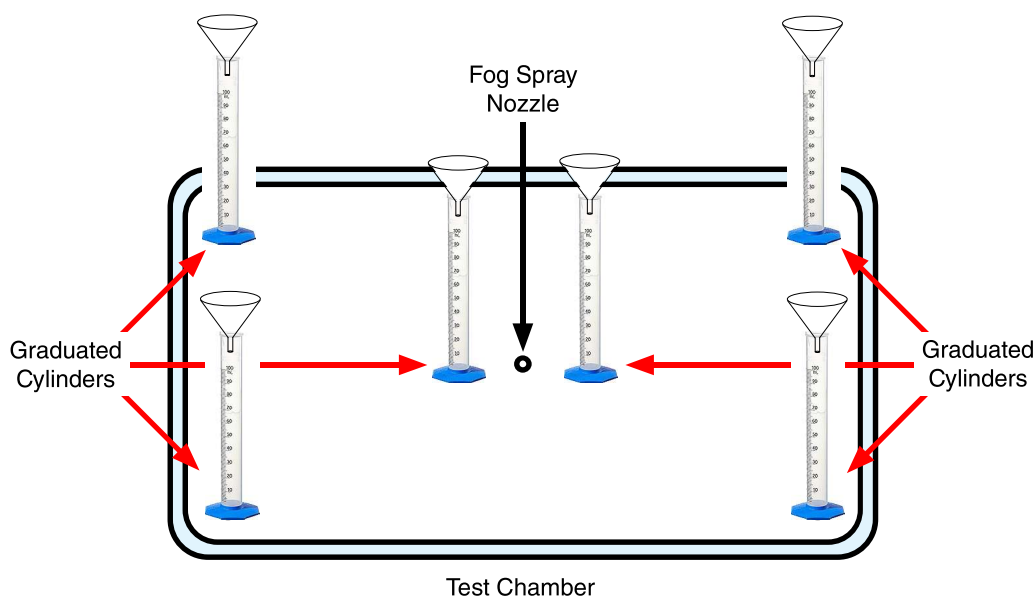

Figure 12.2a: Collection vessel placement - test chamber top view.
- The recommended placement is one of these vessels in each corner of the test chamber with at least a 5 cm gap between the edge of a funnel and the wall, and a vessel on each side of the fog spray nozzle approximately 15 cm from the nozzle (see Figure 12.2a).